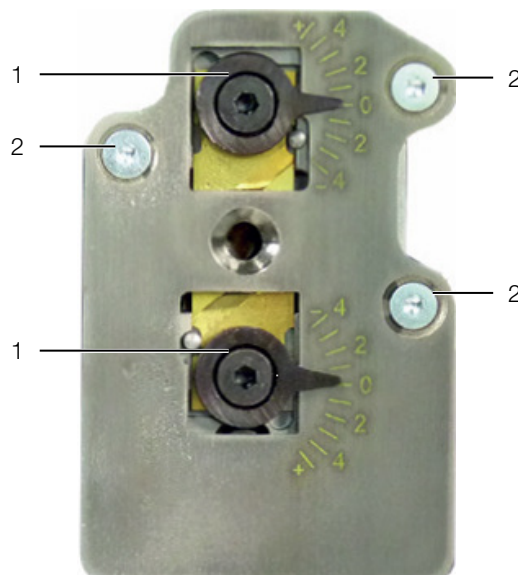

Fig. 25: Stripping unit
- Remove both eccentrics (fig. 25, item 1) (Allen key 2.5 mm).
- Release the fixing screws (fig. 25, item 2) (Allen key 2.0 mm) and remove the cover.